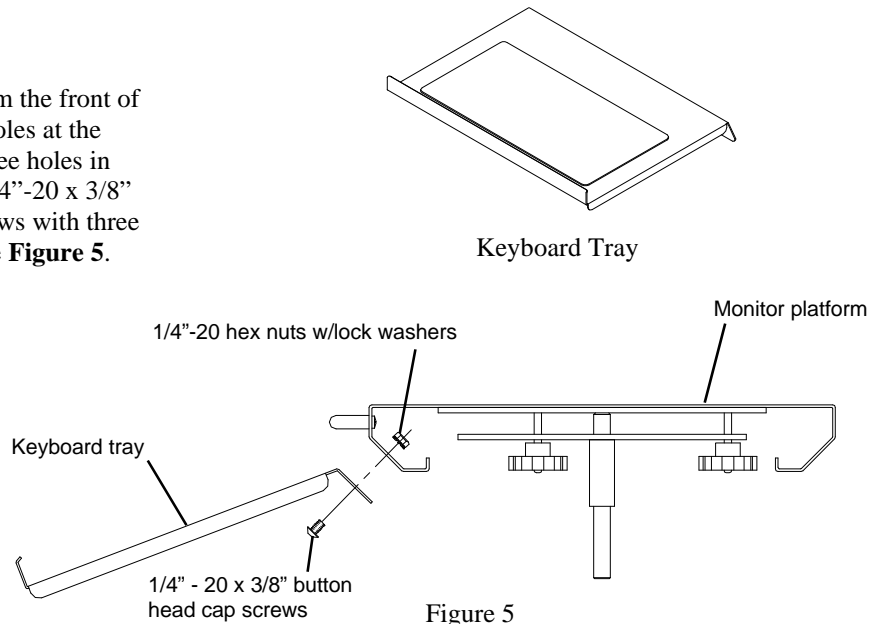

Figure 5
1. Remove the three plastic hole plugs from the front of the Monitor Platform. Align the three holes at the rear of the **Keyboard Tray** with the three holes in the Monitor Platform and insert three 1/4"-20 x 3/8" button head cap screws. Secure the screws with three 1/4"-20 hex nuts with lock washers. See **Figure 5**.